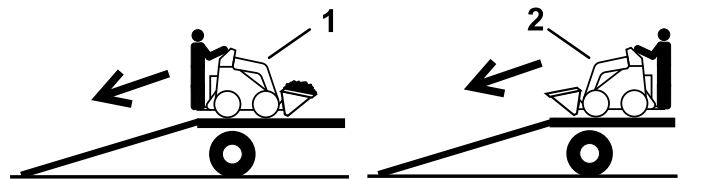

Figure 14
2. Unload the machine from the trailer with the heavy end up the ramp, carrying loads low (Figure 14).